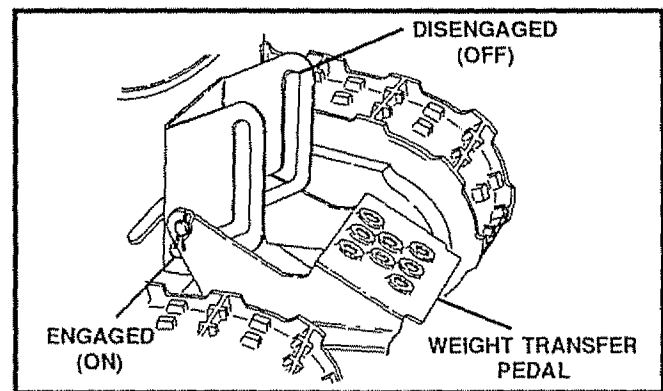

FIG. 12
- To use the weight transfer, hold the upper handle firmly and push down on the weight transfer pedal (See Fig. 12) with the ball of your foot.